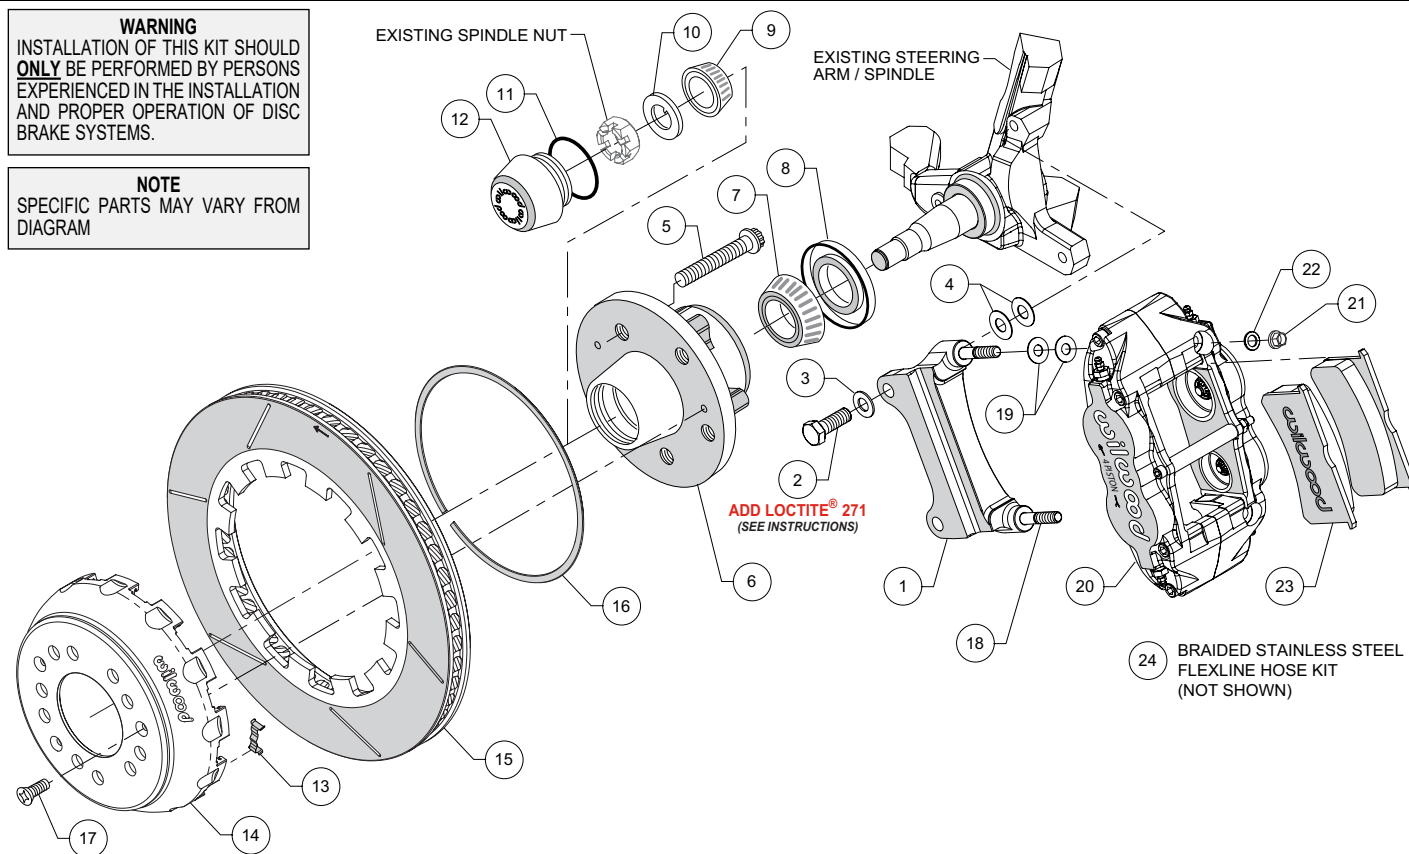

Figure 2. Typical Installation Configuration
NOTE: Numbers in parenthesis refer to the parts list and Figure 2 on the preceding pages.
- The caliper mount bracket (1) should initially be installed with clean, dry threads on the mounting bolts. Orient the bracket as shown in Figure 2 and Photo 1, and install using bolts (2) and washers (3). Initially place two .033" thick shims (4) on each bolt between the bracket and upright, Figure 2. Temporarily tighten the mounting bolts. **NOTE:** The bracket must fit squarely against the mounting points on the spindle. Inspect for interference from casting irregularities, machining ridges, burrs, etc. Later, after the caliper alignment has been checked, the mount bolts will be secured using red Loctite® 271.
- Insert the dynamic mount wear clips (13) into the slots in the hat (14), Photo 6. Orient the rotor (15) as shown in Figure 2 and Photo 7, with the flush side of mount lugs facing the hat. Secure the rotor to the hat using the snap ring (16) by simultaneously pushing down on the rotor and installing the ring into the groove in the hat, as shown in Photo 8. Carefully inspect snap ring to ensure complete engagement in the groove.
- Slide the hat/rotor assembly onto the hub assembly. **NOTE:** *The hat must fit flush against the hub flange or excessive rotor run out may result.* Install three flat head screws (17) through the small holes in the hat, Photo 9, and torque to 85 in-lb.
- NOTE:** *This kit contains distinct right and left hand calipers that must be mounted in a specific direction, as described below.* Initially place two .035" thick shims (19) on each stud (18) between the caliper and the bracket, as shown in Figure 2 and Photo 10. Mount the caliper (20) onto the bracket (1) using lock nuts (21) and washers (22), Figure 2. Ensure that the caliper is mounted so the largest pistons are at the rotor exit end of the caliper, in relation to the forward rotation of the rotor. Temporarily tighten the lock nuts and view the rotor through the top opening of the caliper. The rotor should be centered in the caliper, Photo 11. If not, adjust by adding or subtracting shims (4) between the bracket and the spindle. Always use the same amount of shims on each of the two mounting bolts. Once the caliper alignment is correct, remove the bracket mounting bolts (2) one at a time, apply red *Loctite*® 271 to the threads, and torque to 60 ft-lb.